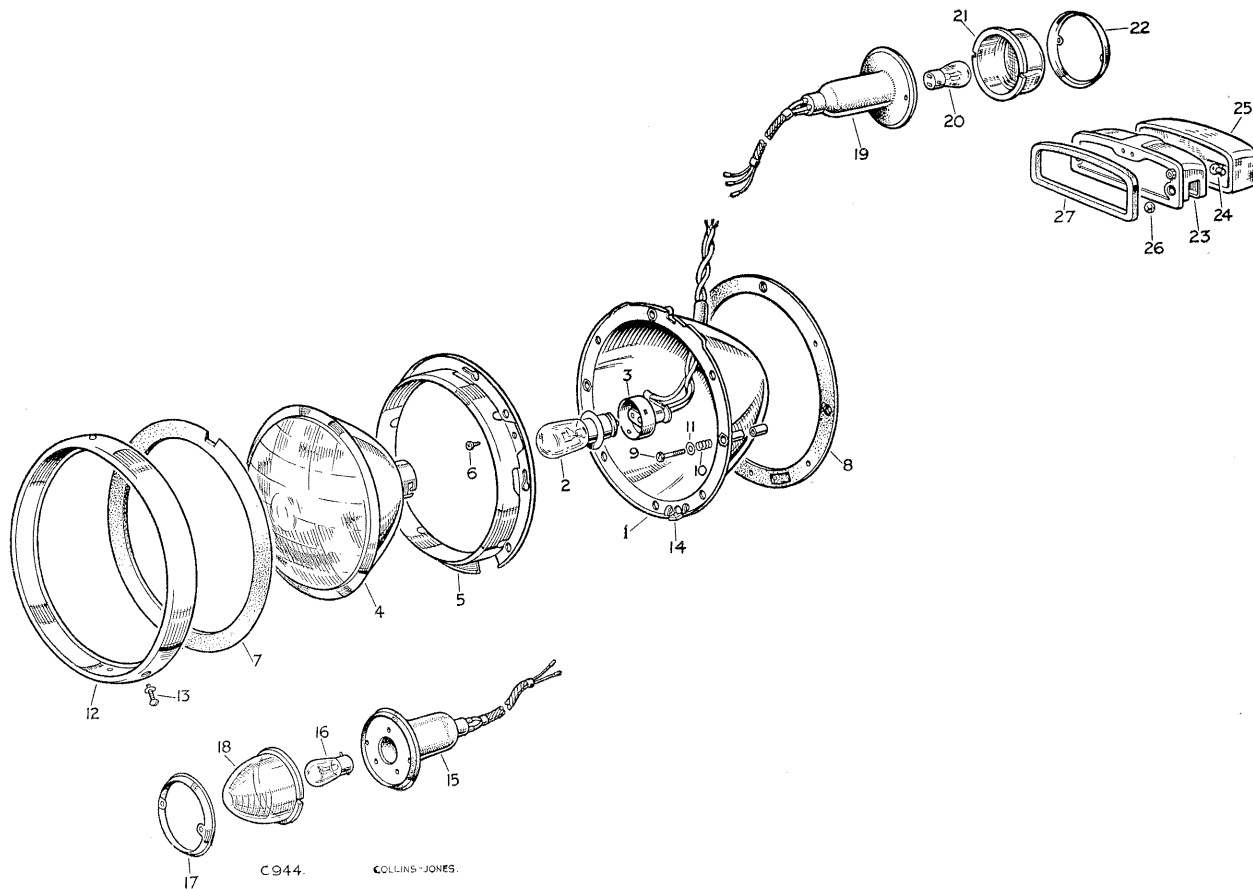

Fig. P-19—Layout of lamps
- Mark on a board the dimensions given in Fig. P-19 and position the vehicle unladen, on level ground.